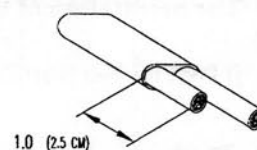

FIGURE 3
- Cut one of the lead wires 1.0 in. (2.5 cm) (Fig. 3).